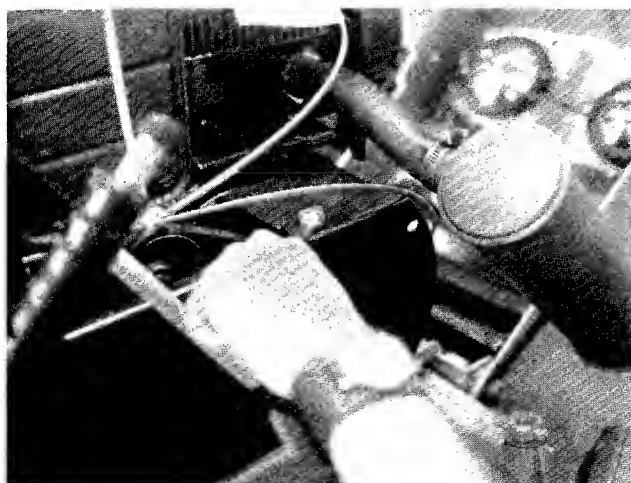

FIGURE 10. MUFFLER REMOVAL
- g. Remove the top bolt on the belt guard. See figure 10.